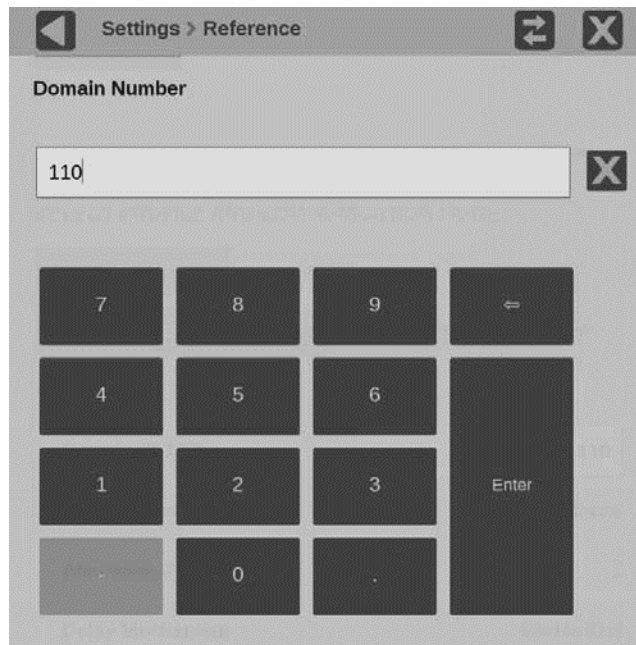

Figure 68: Editing the PTP domain setting
6. Select the **Domain (0-127)** box to open the editing display. (See Figure 68.)